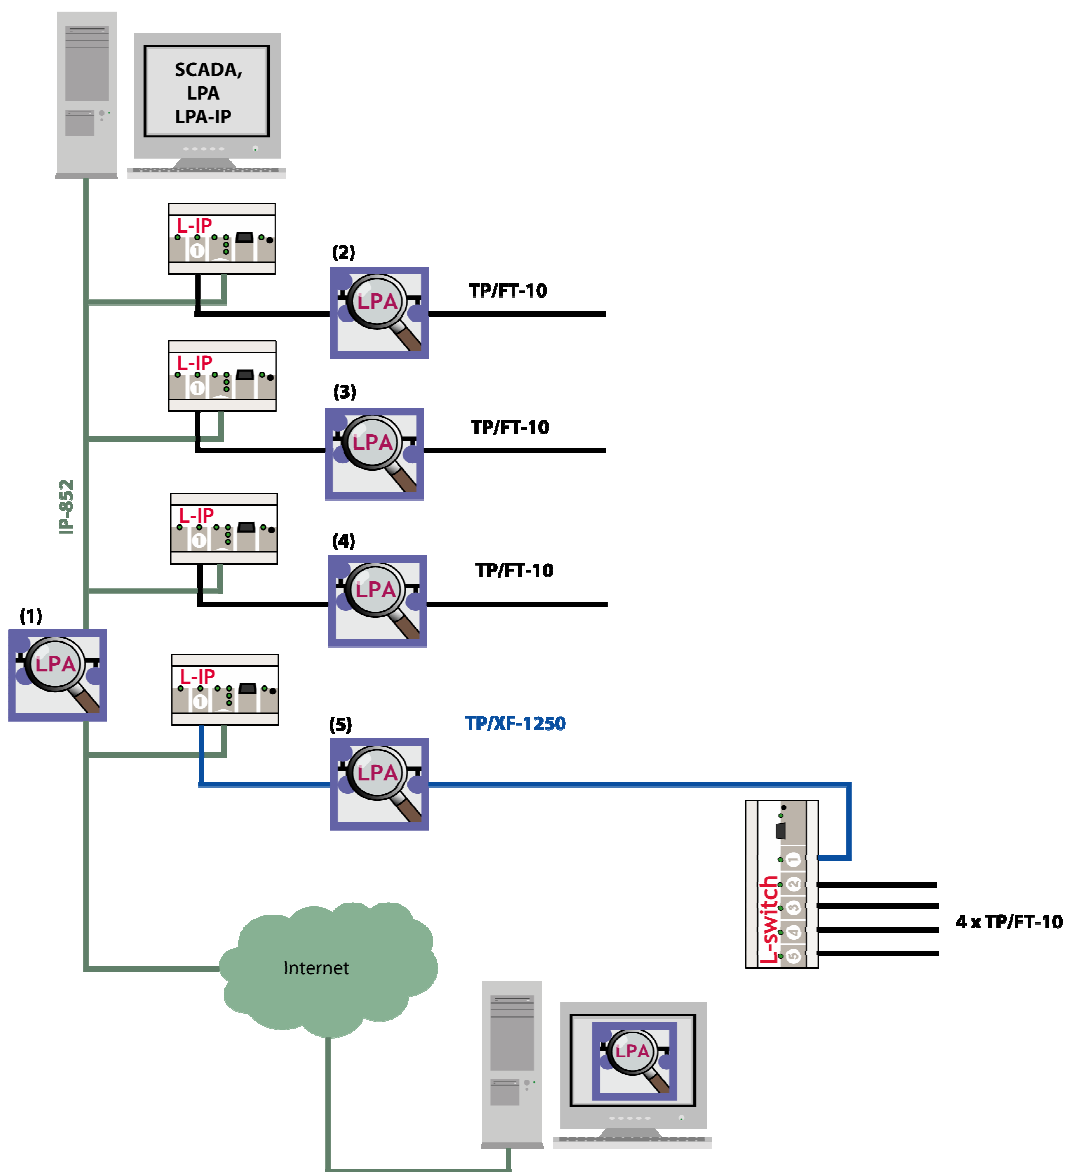

Figure 20: Remote network analysis with the LPA and LPA-IPs.
Figure 20 shows the different possibilities for a remote network analysis. The LPA-IP can monitor the network traffic on the IP-852 channel (1) as well as the remote traffic behind the L-IP devices (2, 3, 4, and 5).